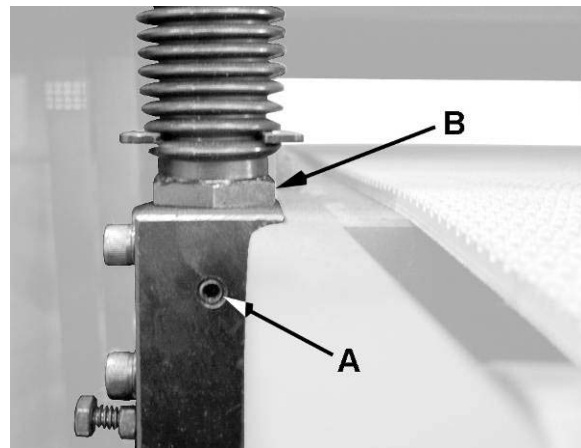

Figure 19
Referring to Figure 19 – If adjusting the table height becomes difficult or if excessive clearance forms between the lead screws and bushings, adjustment may be required as described below.
2. Use a 1/8" hex wrench to loosen the *setscrew* (A, Fig. 19) between 1/4 and 1/2 turn.